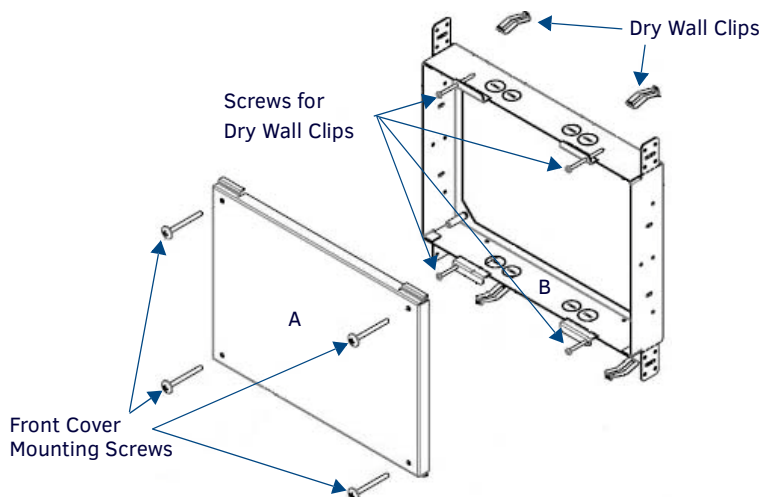

FIG. 16 CB-MVP-WDS9 Rough-In Box - with front cover
The optional metal rough-in box (**FG038-13**) is 11.97 inches (30.40cm) wide at its widest dimension (wider than the bezel of the Wall Docking Station), and is only intended for pre-construction installations (FIG. 16). The Metal Rough-In Box is used in conjunction with the Wall Docking Station's plastic back box.
1. Remove the rough-in box cover (**A** in FIG. 16) before installation of the Rough-In Box (**B**).